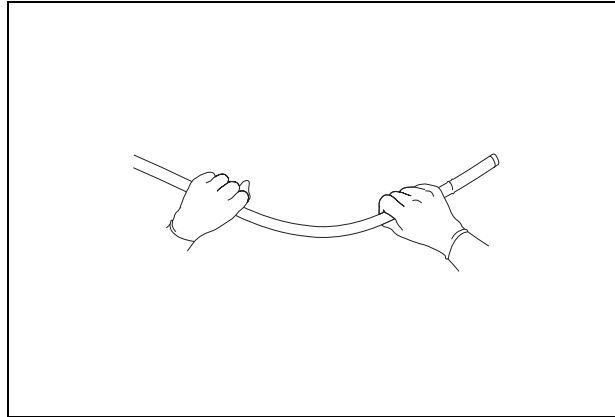

Figure 3.5
3. Set the insertion tube to the softest and stiffest conditions, respectively. In each case, hold the insertion tube with two hands between 30 and 50 cm from the distal end, and bend it gently as shown in Figure 3.5. Confirm that the actual flexibility varies according to the flexibility adjustment settings.